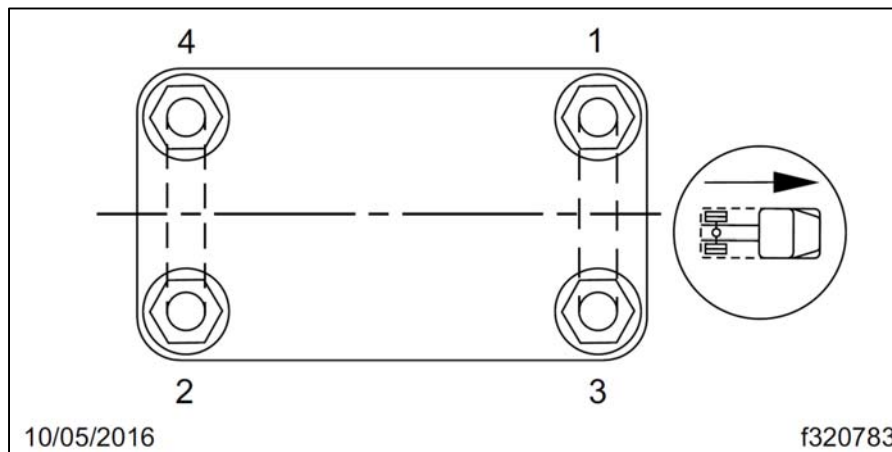

**Figure 6: Spacers Installed between I-Beam and Stabilizer Bracket**
11. Install four new U-bolts. Put three washers of the correct size (per Table 3) on each side of only the forward U-bolts between the I-beam and the stabilizer bracket (12 washers total). See Figure 6 below.